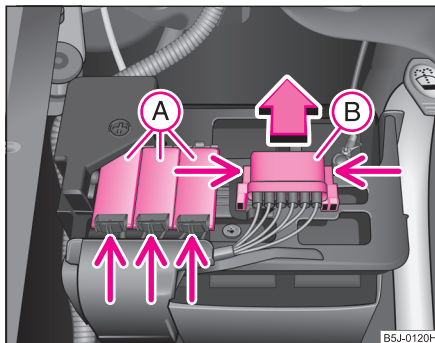

Fig. 169 The battery:
- Press onto the interlocks of the fuse covers (A) ⇒ fig. 169 and open the covers.
- Press together the interlocks of the fuse cover (B) simultaneously and push out the cover in the direction of the arrow.
- Some vehicles are only fitted with the cover (B) ⇒ fig. 169. ■